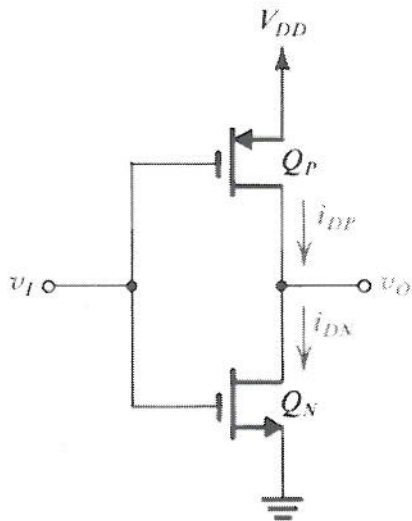
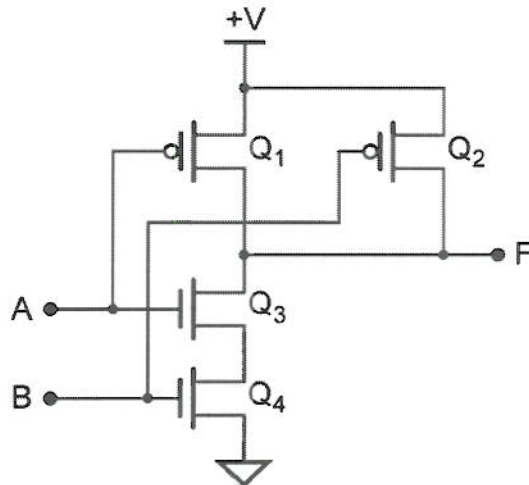

Figure 1: CMOS Inverter.
Figure 2: CMOS NAND Gate.
2. Using your text or other resources review the circuit operation of CMOS Inverter and NAND gate circuits similar to those of figure 1 and figure 2.
3. Annotate a copy of both figure 1 and figure 2 with the appropriate pin numbers from the ALD1105 spec sheet, and place in your lab notebook.
- 1) Construct the circuit of figure 1.
- 1) Construct the circuit of figure 2.